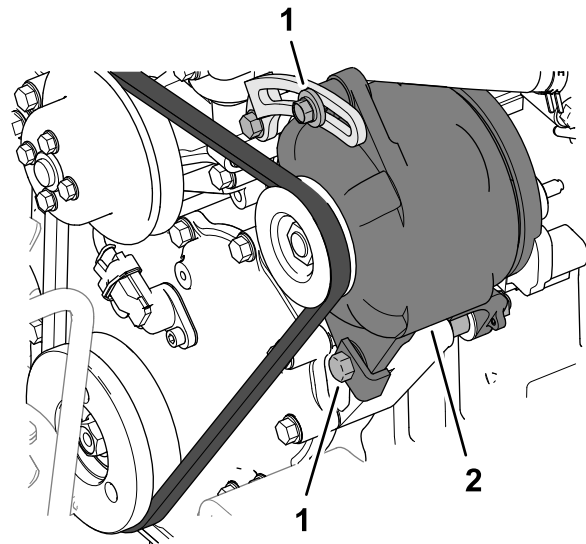

Figure 99
Check the condition and tension of the belts (Figure 99) after every 100 operating hours.
5. If belt deflection is more than or less than 10 mm (3/8 inch), loosen the alternator mounting bolts (Figure 99).